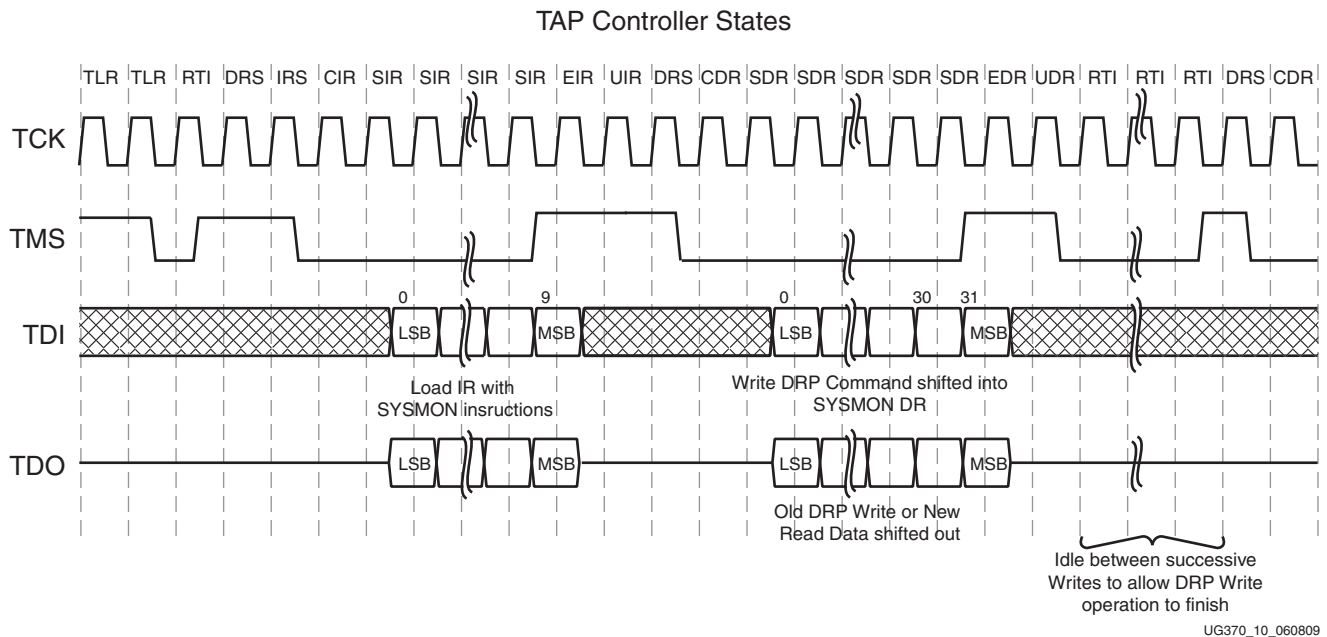

Figure 10: System Monitor JTAG DRP Write Operation
Figure 10 shows a timing diagram for a Write operation to the SYSMON DRP through the JTAG TAP. The DRP is accessed through the System Monitor Data register (SYSMON DR). Before the SYSMON DR is accessed, the instruction register (IR) must first be loaded with the SYSMON instruction. The Controller is first placed in the IR-scan mode, and the SYSMON instruction is shifted to the IR.
If multiple writes to the SYSMON DR are taking place, it might be necessary to idle the TAP Controller for several TCK cycles before advancing to the next write operation. This is illustrated in Figure 10. The idle cycles allow the arbitrator to complete the Write operation